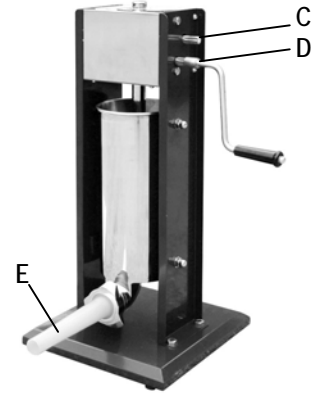

Figure 2
Use the High Speed (C) Gear for quick reverse. Use the Low Speed (D) Gear (Figure 2) to force the mixture down the cylinder into the sausage stuffer of your choice (E, Figure 2).